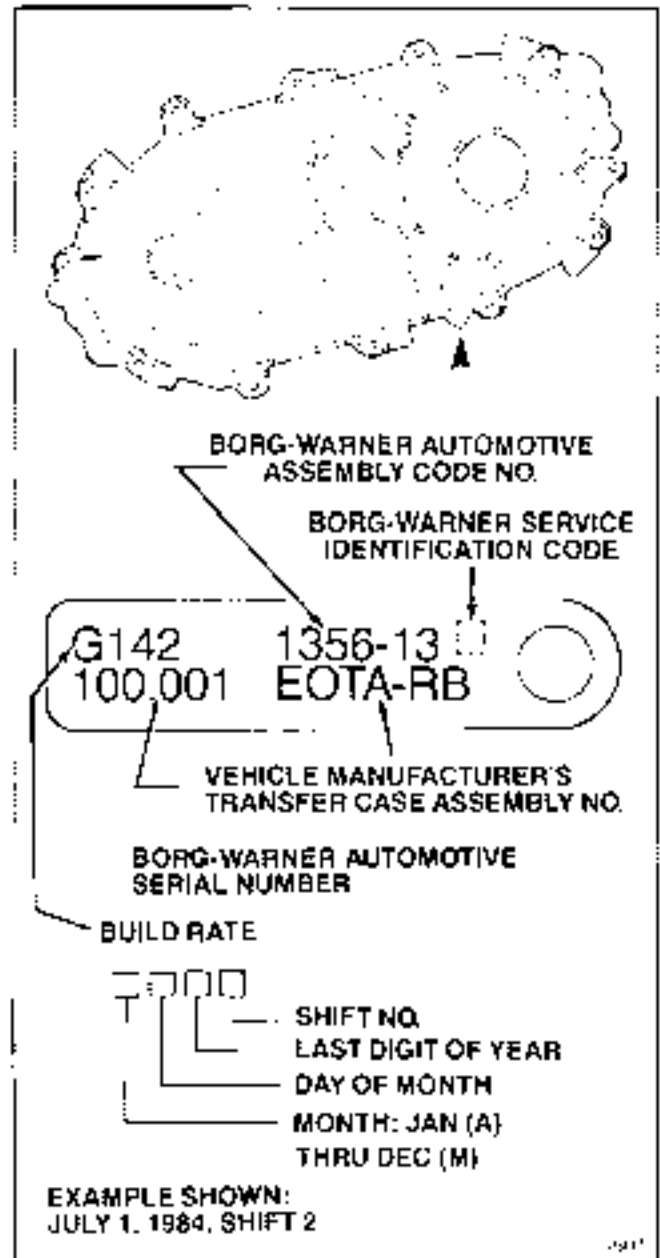

Figure 1-1. Identification Tag
**1-12. IDENTIFICATION.** The identification tag is installed on the transfer case at the location shown in figure 1-1, looking at the rear of the case. Figure 1-1 also illustrates the information to be found on the tag, some of which may be necessary for specifying correct replacement parts. Figure 1-1 also shows the alternate identification marking location which contains the same information.